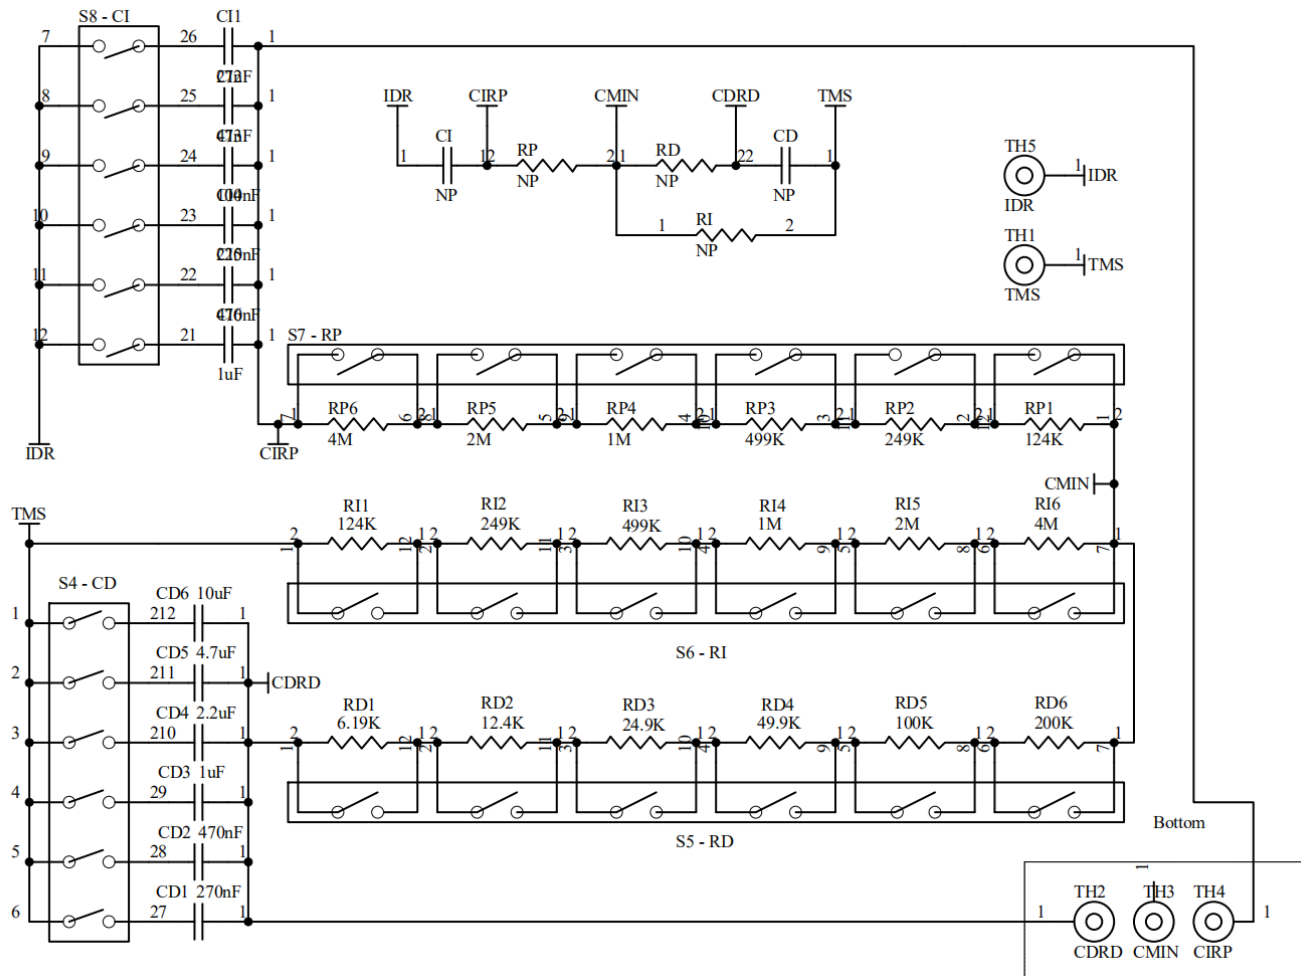

Figure 31. Schematic of TEC50V20AB
h. The evaluation schematic is given in Figure 31.